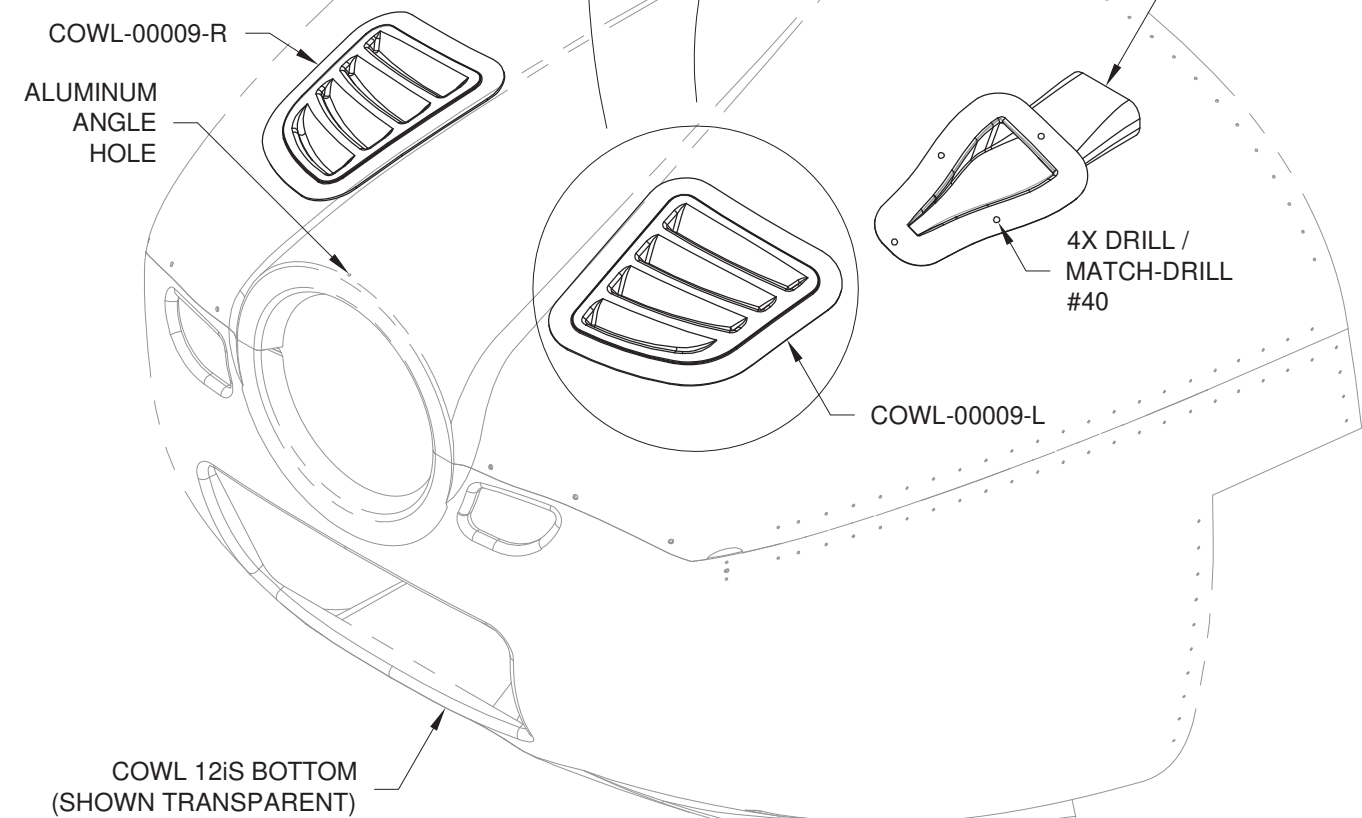

FIGURE 1: iS COWL INLETS
Step 11: Repeat Steps 3 through 10 for the COWL-00011 as shown in Figure 1. Ensure that the COWL-00011 aligns with the voltage regulator on the firewall prior to Step 5.